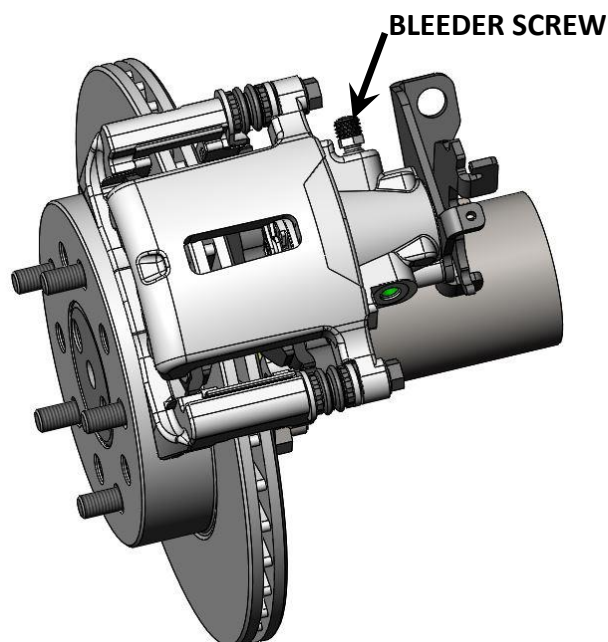

Figure 8 - Caliper Installation and Bleeder Screw Orientation
11. Once the Caliper Anchor Bracket is installed, position the pads back into the Caliper Anchor Bracket. Make sure that the pads slide on the stainless steel abutment clips that are clipped into the Caliper Anchor Bracket. Slide the caliper body over the brake pads and Caliper Anchor Bracket and re-install the caliper mounting bolts between the caliper and the bracket. Torque the bolts to 30 lb/ft. **IMPORTANT:** Make sure that the bleeder screw is pointing upward. See Figure 8 below for reference on installing the caliper.